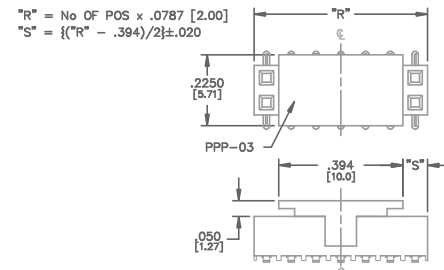

FIG. 3
-P: PICK AND PLACE PAD (USE PPP-03) (SEE FIG 3)